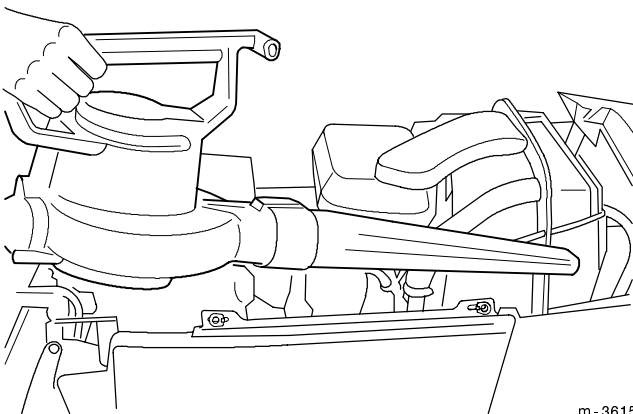

Figure 9
**IMPORTANT: It is preferable to blow dirt out (Fig. 9), rather than washing it out. If water is used, keep it away from electrical items.**